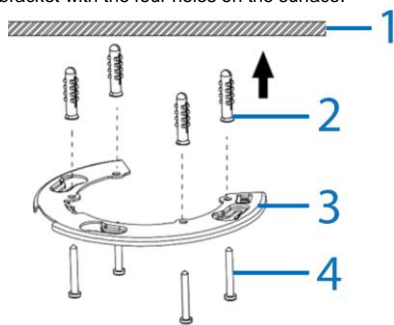

Figure 6
- On the surface (1) (Figure 6) drill four Ø 6mm holes and insert the four plastic screw anchors (2) (Figure 6) into the four Ø 6mm holes.
- Hold the flat bracket (3) (Figure 6) up to the surface and align the four holes on the flat bracket with the four holes on the surface.
- Insert the four screws (4) (Figure 6) into the four screw anchors and use the screwdriver to securely attach the flat bracket to the surface.